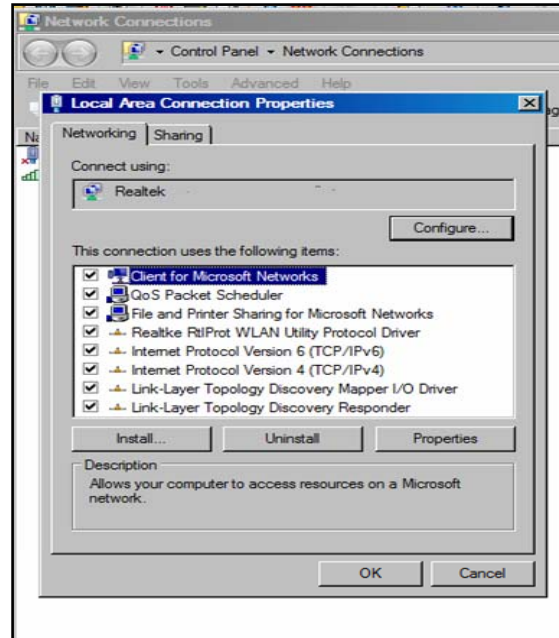

Figure 5-2. LAN Properties
3. Select the LAN Icon and click on *File* then *Properties*, **Figure 5-2**.